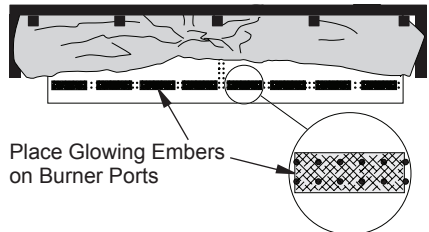

Figure 16 - Placement of Embers
3. Add embers to front flat burner as shown in Figure 16. (12 pieces are supplied with 24" models and 8 pieces with 18" models.) Additional glowing effect can be achieved by fraying edges of ember material.
⚠ WARNING: Do not operate unit without ember material correctly in place as shown in Figure 16, page 14. Do NOT place ember material anywhere else on the unit. Use only ember material supplied with unit. Excessive or incorrectly placed ember material may produce carbon monoxide or soot.